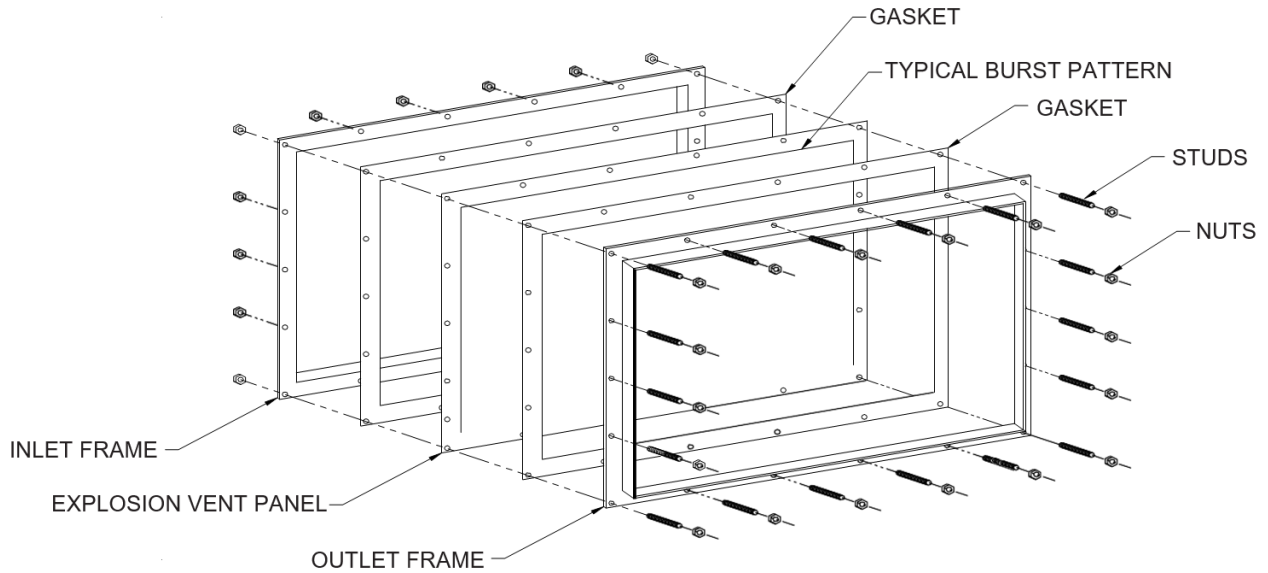

FIGURE 1 |
- e) Carefully install the new explosion vent between the inlet and outlet mounting frames using new gaskets as shown in figure 1. ZOOK recommends compressed fiber gasket no greater than 1/16" (1.6mm) thick. The user is cautioned to select a gasket material that is suitable for the intended service and will resist "cold flow". In the event of cold flowing of the gaskets, the installation torque will relax, which can result in erratic bursting of the Explosion vent and/or leakage.